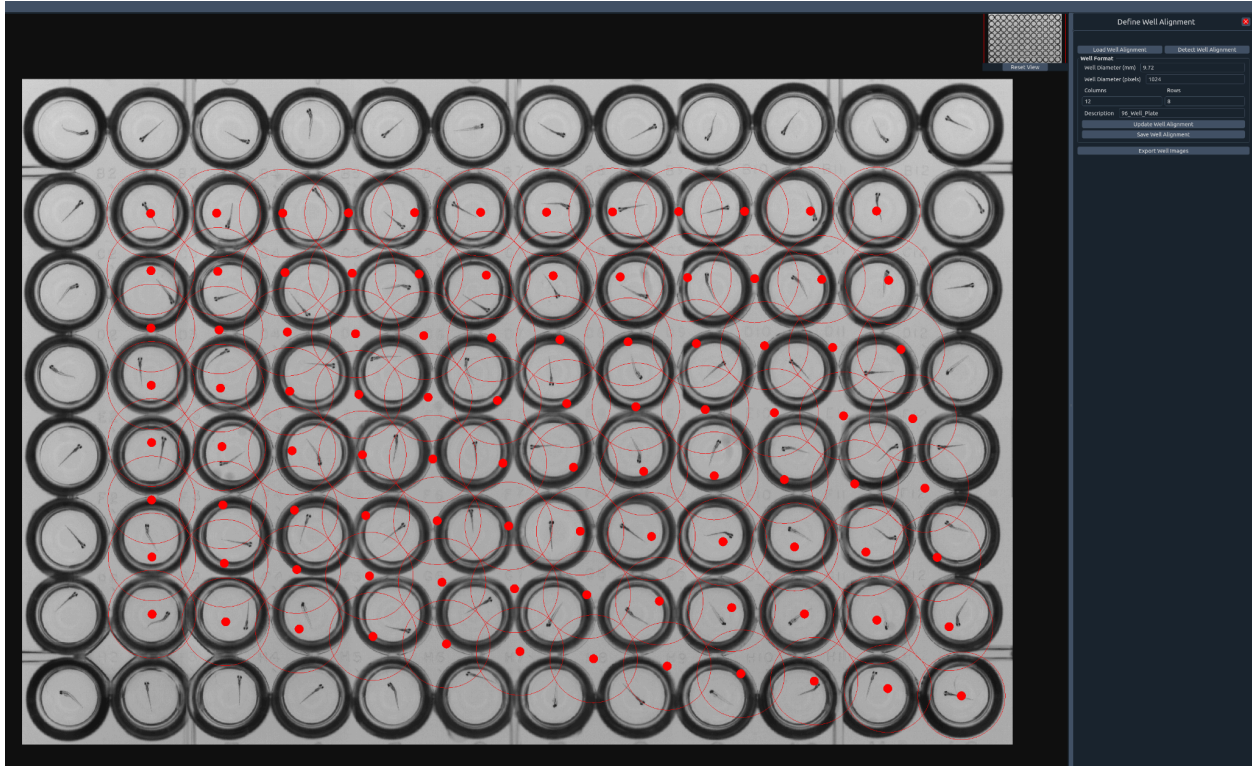

Fig 28: Well Alignment initial guess.
- 4) When initially detecting well keypoints it is likely this step will fail as shown below with circle indicators not lining up with wells. This is expected (Fig 28).